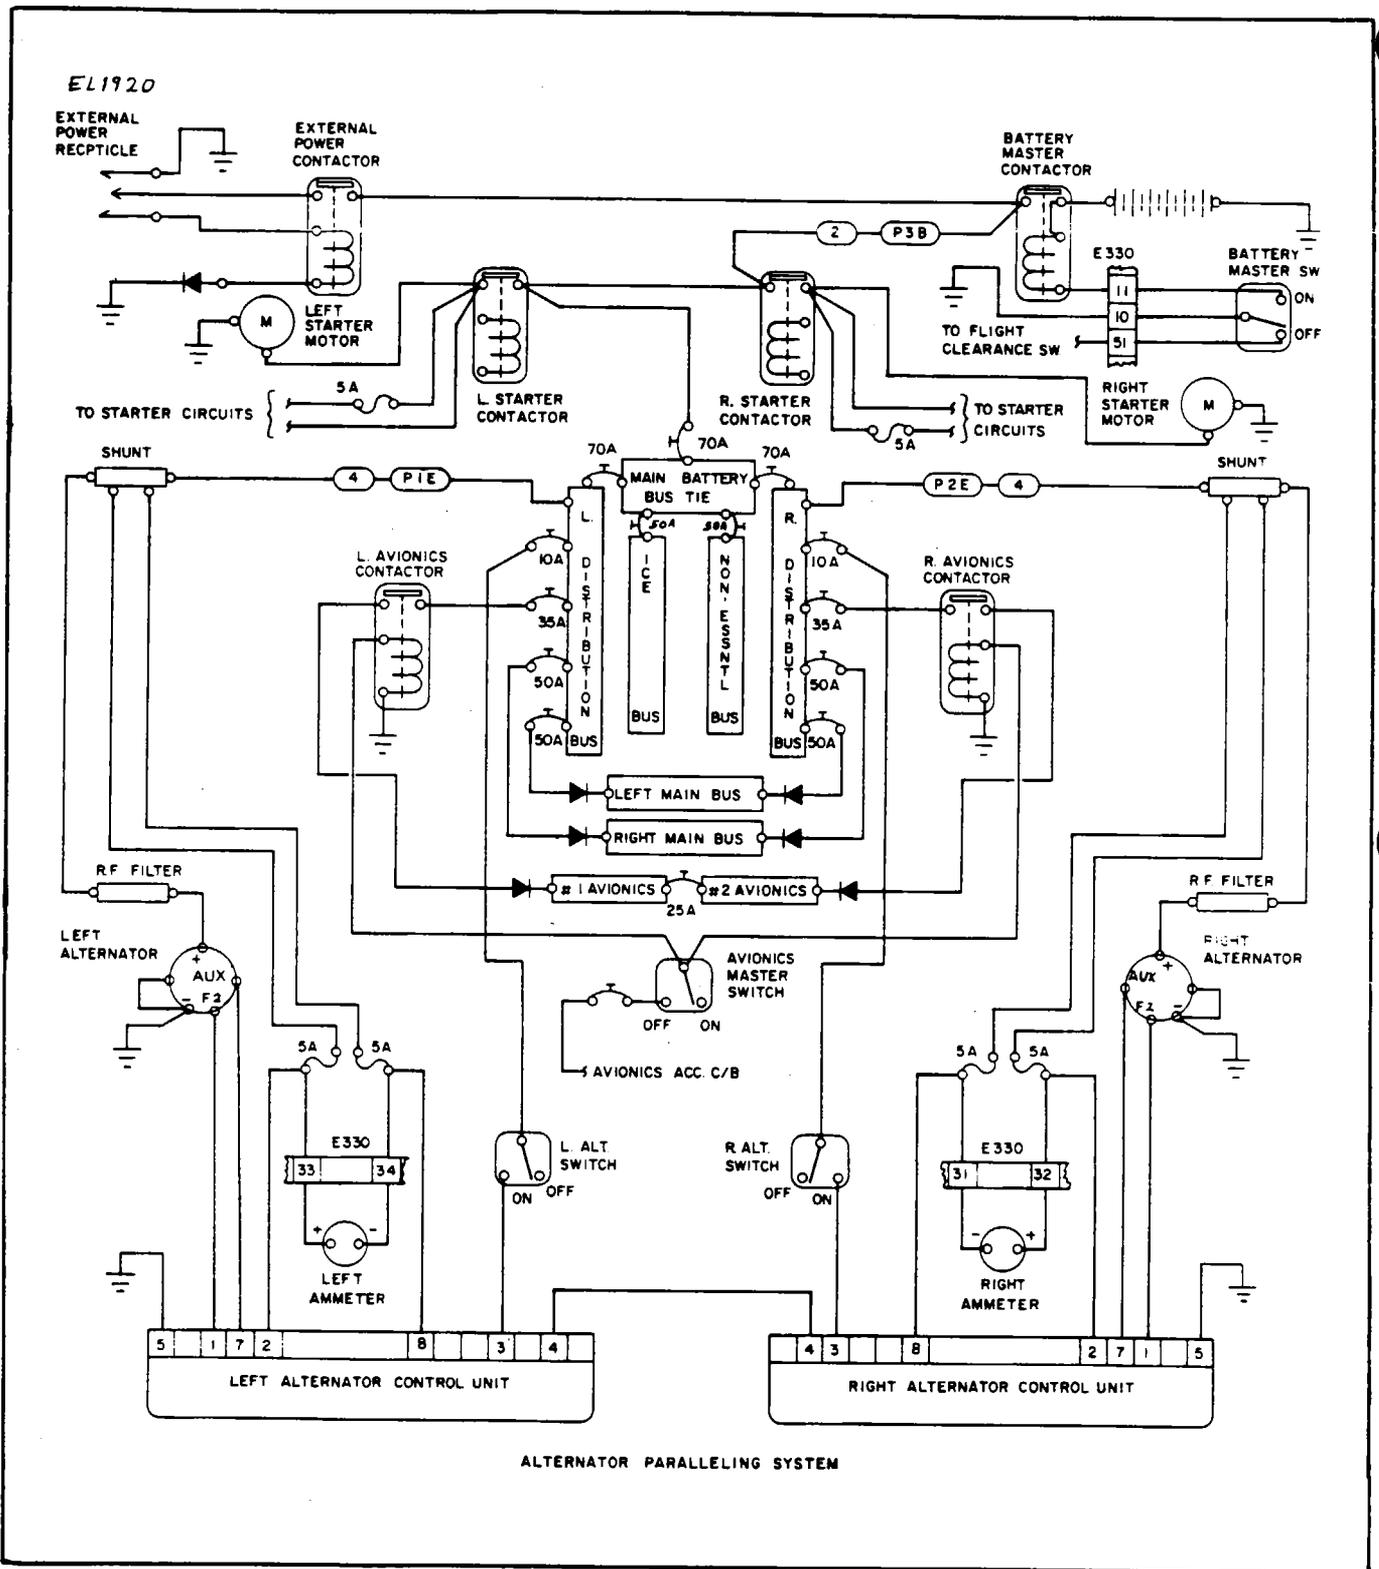

Figure 24-2. Electrical Power Distribution System
**DESCRIPTION.** (Refer to Figure 24-2.)
*Figure 24-2 is a typical system schematic for reference, refer to Chapter 91 - Electrical Schematics for troubleshooting the system.*
**BUS TIE DIODE TESTS.** (Refer to Figure 24-2.)
The left and right alternator outputs are paralleled by the solid-state Alternator Control Units. (Refer to Figure 24-2.)